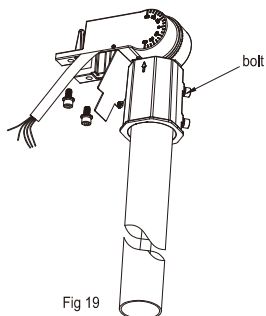

Fig 19
Step 4 . Tighten the four screws on the LAMP Holder using a wrench, as shown in Figure 19.